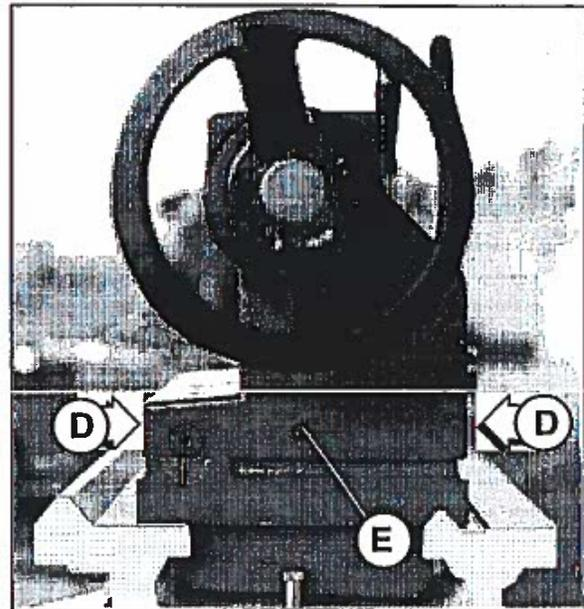

Fig. 19
Set over adjustment is achieved by unclamping tailstock lever (A) and ensuring nut (B) is released. Undo rear location screw (E) one turn (Fig. 19). Adjust screws (D) at each side of base by slackening one and tightening the other to laterally move tailstock across the base. Re-tighten the rear location screw.